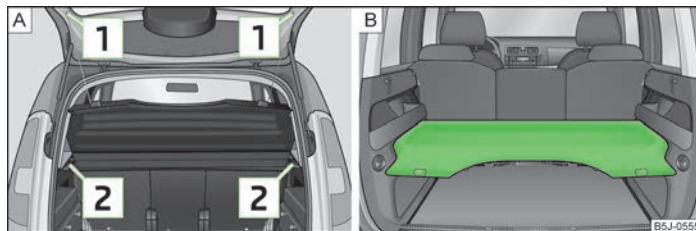

Fig. 47 Removing the luggage compartment cover/luggage compartment cover in the lower position
- Unhook the support straps **1** » Fig. 47.
The luggage compartment cover can also be put into the lower position on the supporting elements » Fig. 47 - **B**.